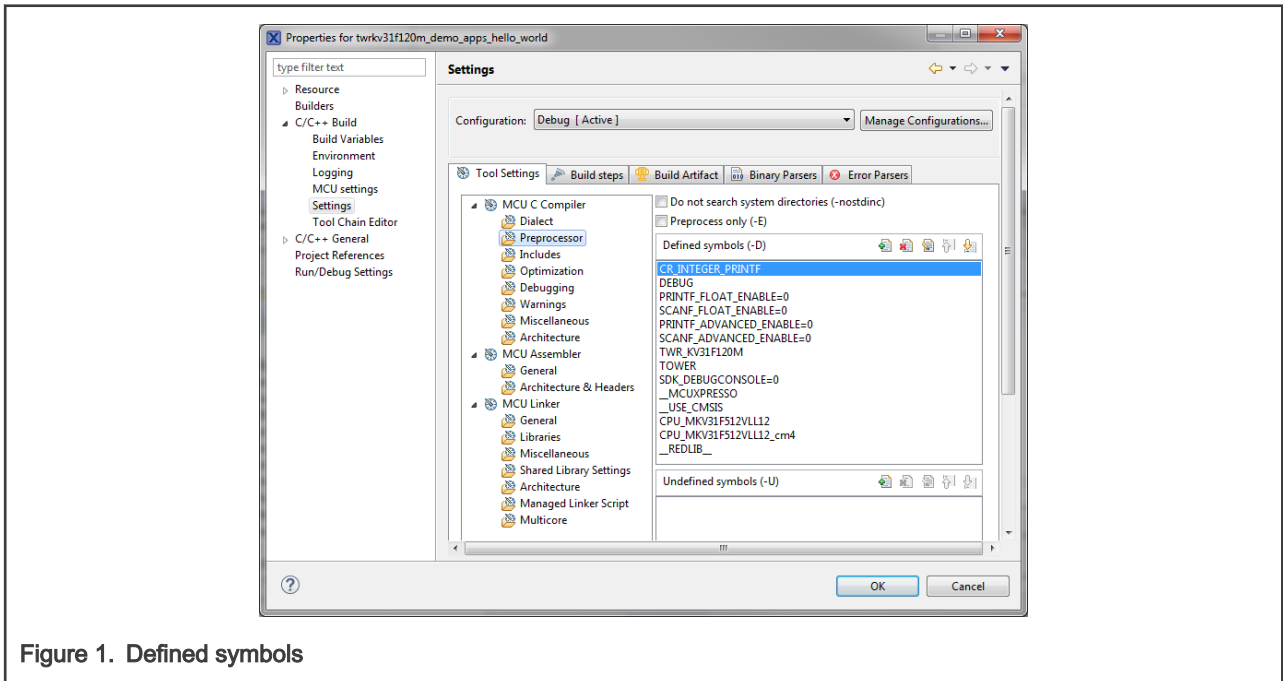

Figure 1. Defined symbols
2. Expand the C/C++ Build node and select Settings. See Figure 1.
3. On the right-hand side, under the MCU C Compiler node, click the Preprocessor node. See Figure 1.